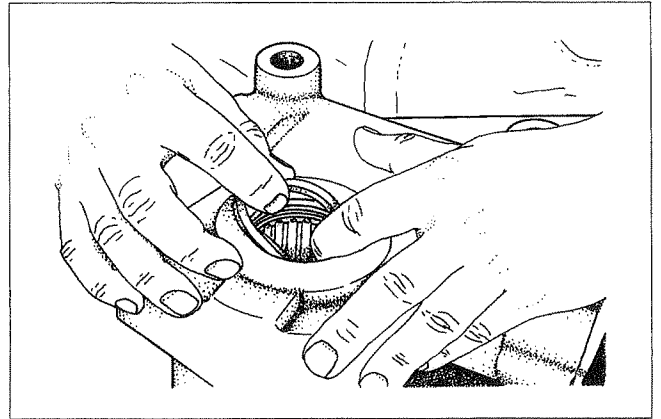

Figure 30
1. Install a new seal in the housing with the blue side of the seal toward the outside of the gear (Figure 30).